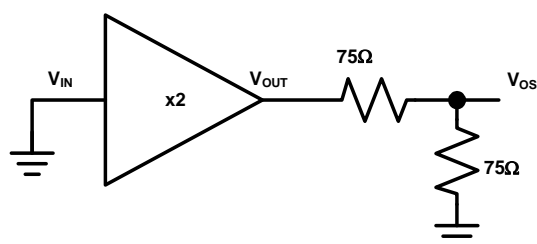

FIGURE 2. V_{OS} MEASUREMENT CONDITIONS
- Offset measurements are referred to 75Ω load as shown in Figure 2.